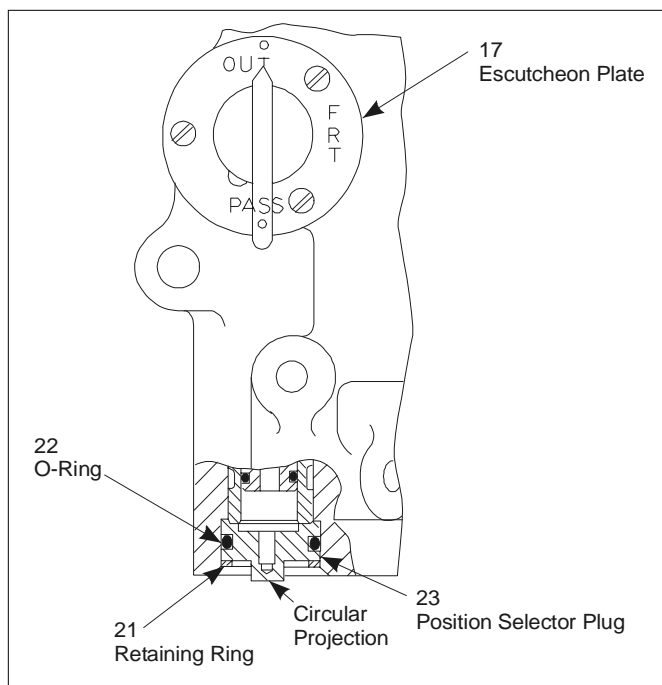

Figure 7 - Escutcheon Plate & Position Selector Plug Orientation Drawing
10.3.60 Insert the cut-off valve position selector plug assembly (22, 23) into the proper opening in the bottom face of the cam housing body (28), so that the circular projection on the plug (23) extends outward from the spool valve chamber.
IMPORTANT: The piston selector plug (23) MUST BE installed as shown in Figure 7 for the valve portion to function properly.
10.3.61 Depress the cut-off valve position selector plug (23) far enough to expose the retaining ring groove in the cam housing body (28).